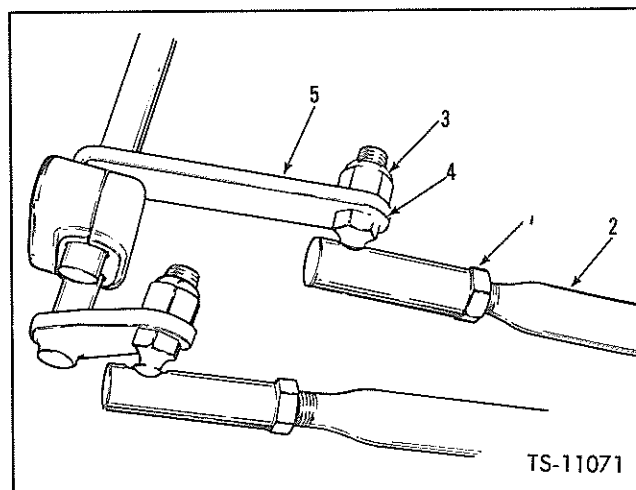

Fig. 22. Adjust Directional and Speed Range Levers
3. Loosen jam nut, (Item 1 Figure 22), on shift rod, (Item 2 Figure 22), and remove locknut, (Item 3 Figure 22) securing ball joint assembly (Item 4 Figure 22), to shift lever arm, (Item 5 Figure 22).